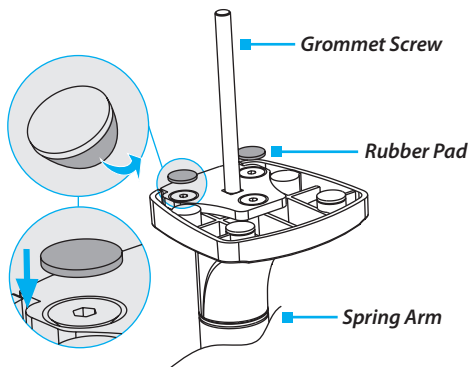

Figure 9
5. Remove the backing from the two **Rubber Pads (7)** and affix the **Rubber Pads** to the tops of two of the **Clamp Screws** on the underside of the **Spring Arm**. (Figure 9)